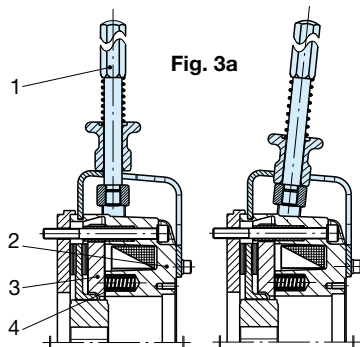

Fig. 3a
In de-energised condition, the brake with lockable hand release can be released manually. By moving the hand release rod (1), the armature disk (3) is pushed against the thrust springs (4) onto the coil carrier (2) and the braking torque is removed, Figs. 3a and 3b.